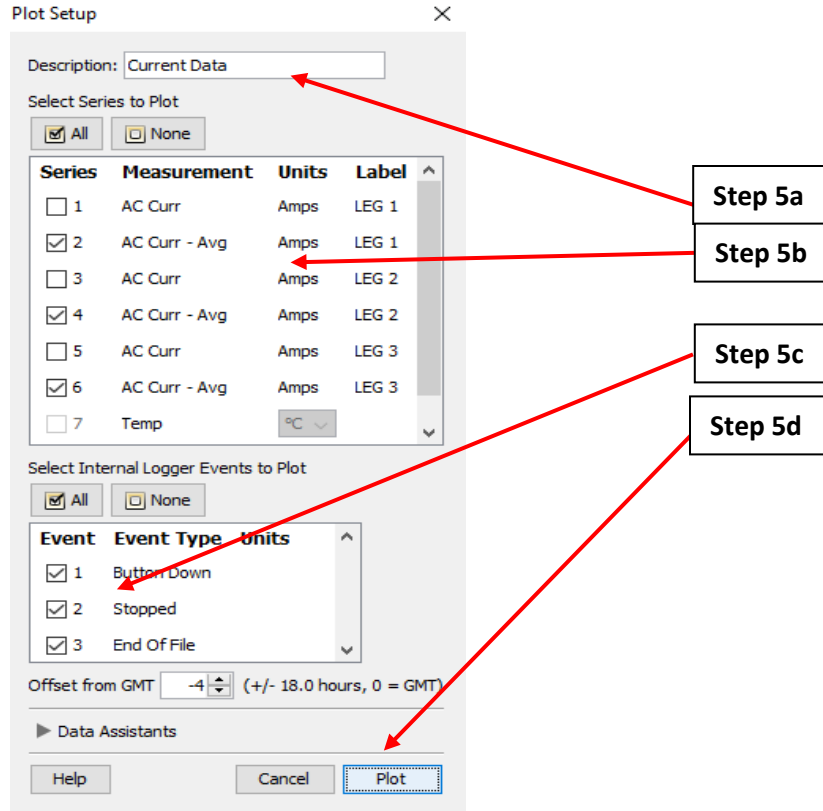

Figure A.9.19: The “Plot Setup” pop-up window with the corresponding steps.
15. The “Plot Setup” window will open (see Figure A.9.19).
- i. For example, for the Onset HOBOWare Split-Core Current Sensor, the “AC Curr – Avg” measurements (Unit: “Amps”) were selected as shown on Figure A.9.19.